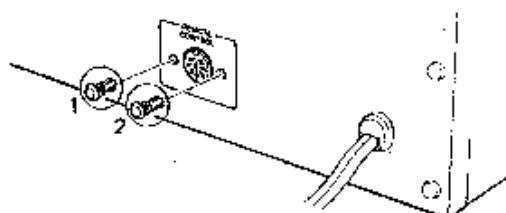

Fig. 16
- Disconnect the head lead wire connectors (#25, #26 and #27). (Refer to fig. 16).
1. Parts of power circuit board (1) replacement
- Remove plastic rivets ① and ② in fig. 16 which fix the remote control terminal of rear panel.